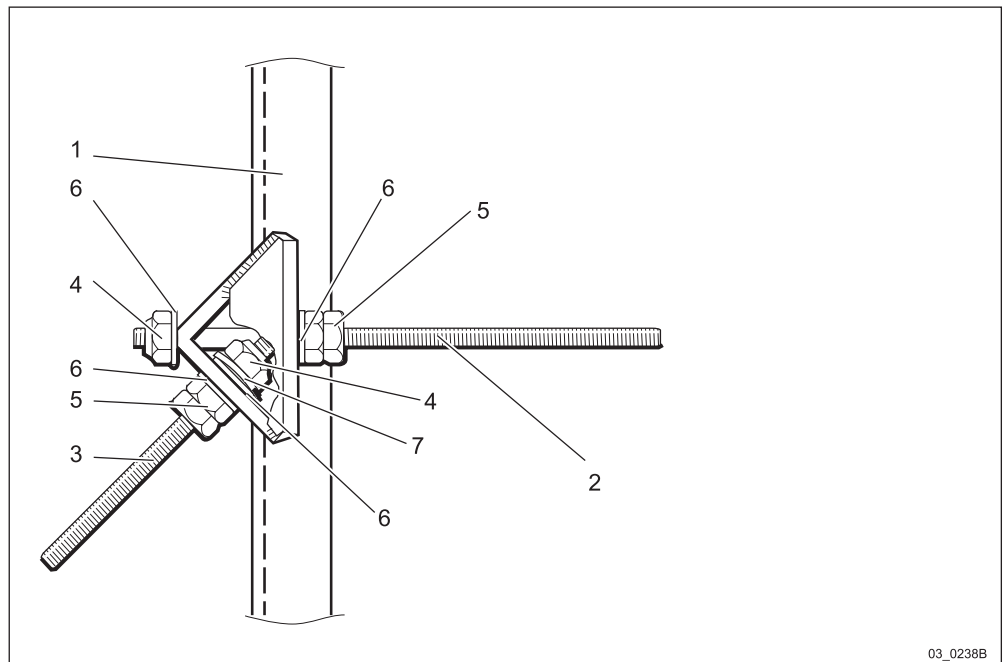

Figure 3
6. Upper attachment, (pos 1) in figure 3, is pre-assembled.
7. Mount pin bolts (pos 3) (2 pcs, $l = 140$ mm) intended to support the diagonal struts.